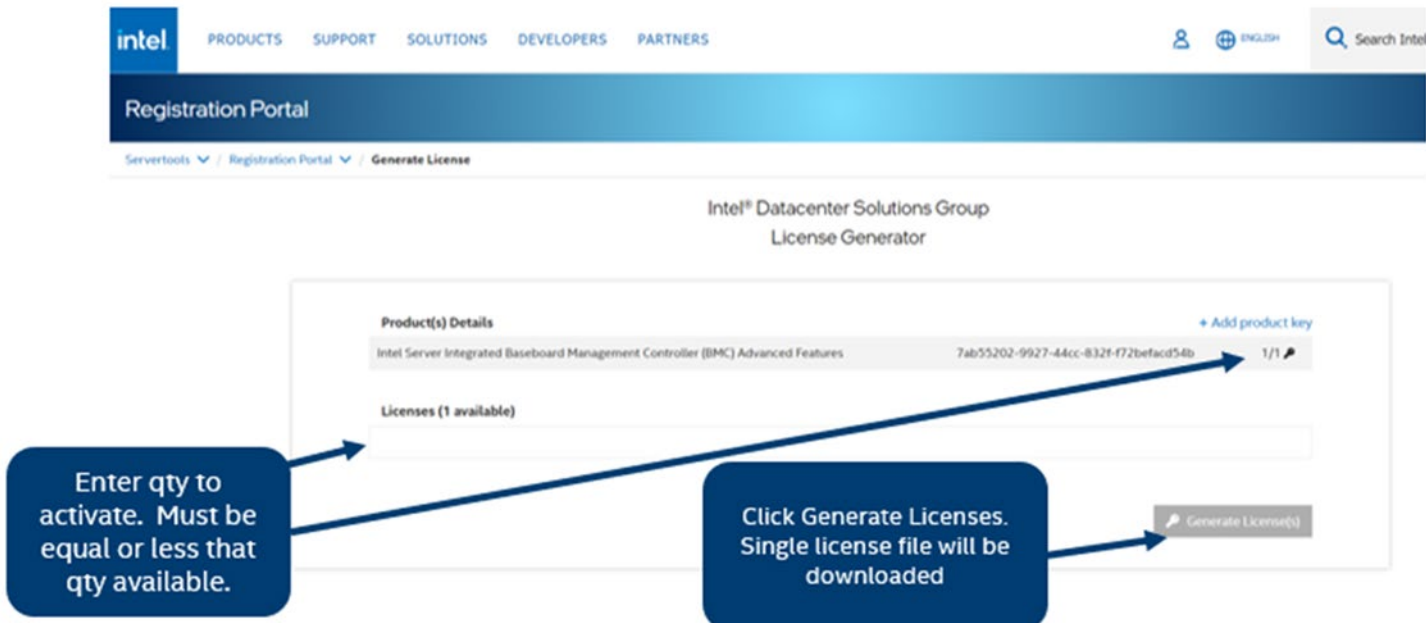

Figure 73. Activate Key for Advanced System Management (ASM) Key
6. Enter the number of Advanced System Management (ASM) licenses needed. It must be equal or less that the quantity available displayed on the right corner of the screen. Click on the “Generate License(s)” bottom to download the single license file. (see Figure 73)